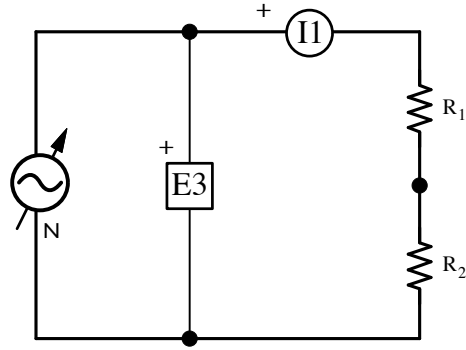

Figure 1.5: AC sine wave circuit
- 6. Set up the circuit shown in Figure 1.5. Note the symbol used to indicate a *variable ac source* in this circuit. Note that voltmeter E3 is placed across the power supply and measures the supply voltage, and that I1 is placed in series with the load, and measures the load current. When connecting the ammeter, use the 4 A connection. Set the resistances of R_1 and R_2 to **300 Ω** each.